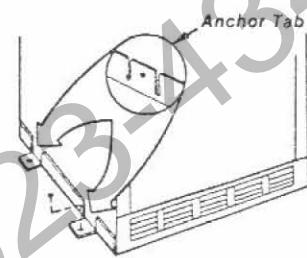

Figure 10
Step 4: Fireplace should be anchored to floor (in manufactured housing, fireplace MUST BE anchored to the floor). Bend down four (4) anchor tabs located at base of fireplace and secure to floor with screws or nails (see Figure 10).
Note: In Manufactured Housing, fireplace MUST BE anchored to the floor. (Figure 10) illustrates the seismic anchor tabs built into the fireplace. (Figure 10) illustrates the proper installation technique. Nail to floor as shown.